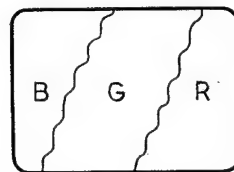

Fig. 3-2.
5. Pull off the pin-plugs of the red and blue leads on the T board or turn the red and blue back-ground controls fully counterclockwise to display a green raster. The screen should appear as shown in Fig. 3-2.